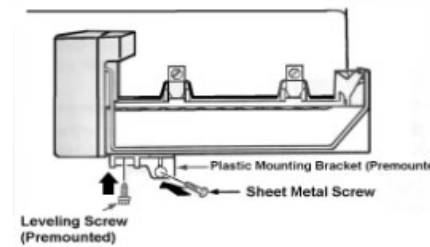
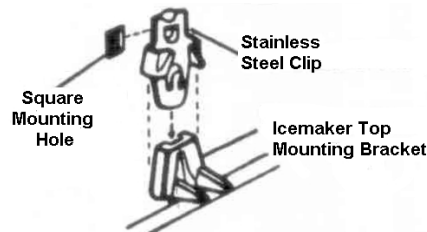
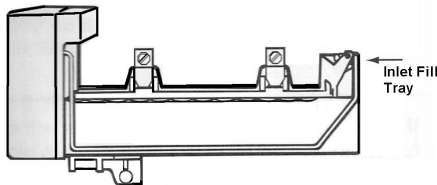

Figure 7
Figure 8
Figure 11
7. Mounting bracket is premounted to the bottom of the icemaker (see Figure 7), do not tighten, you will need to adjust this bracket as you mount the icemaker. Start the two long screws into the holes provided along the top left side of the refrigerator. Level icemaker and tighten both screws. Alternate mounting; (see Figure 8) slip mounting clips into square mounting holes and push down until clips are firmly mounted.
10. Make sure the water inlet tube is in the fill tray (see Figure 11) and the electrical connection is correct. Insert the provided screw under the icemaker, level the icemaker and tighten all of the screws. You may need the fill tube extension if required, slip on to fill tube and twist into place. There are cutouts scored on the inlet fill tray for back or side fill. Level the icemaker (see Figure 7).